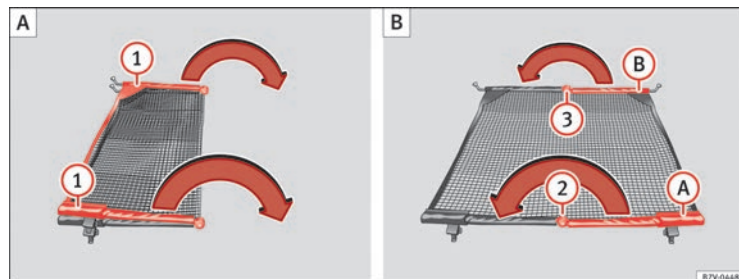

Fig. 93 Unfold the net partition ① then fold it again ② and ③
Fold out the support transversal rods ⇒ Fig. 93 ① for the net partition fully in the direction of the arrow until you hear a “click”.
- Press on the release button ⇒ Fig. 93 (2) and bend the rod (A) in the direction of the arrow with the release button pressed.
- Press on the release button (3) and bend the rod (B) in the direction of the arrow with the release button pressed.